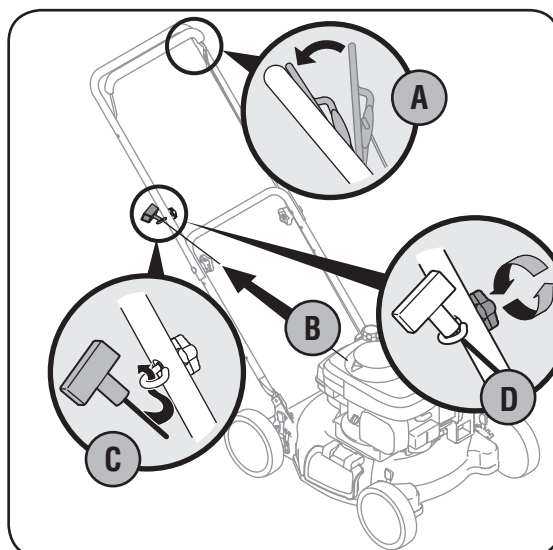

Figure 3
3. Rope guide Setup as follows, see Figure 3.